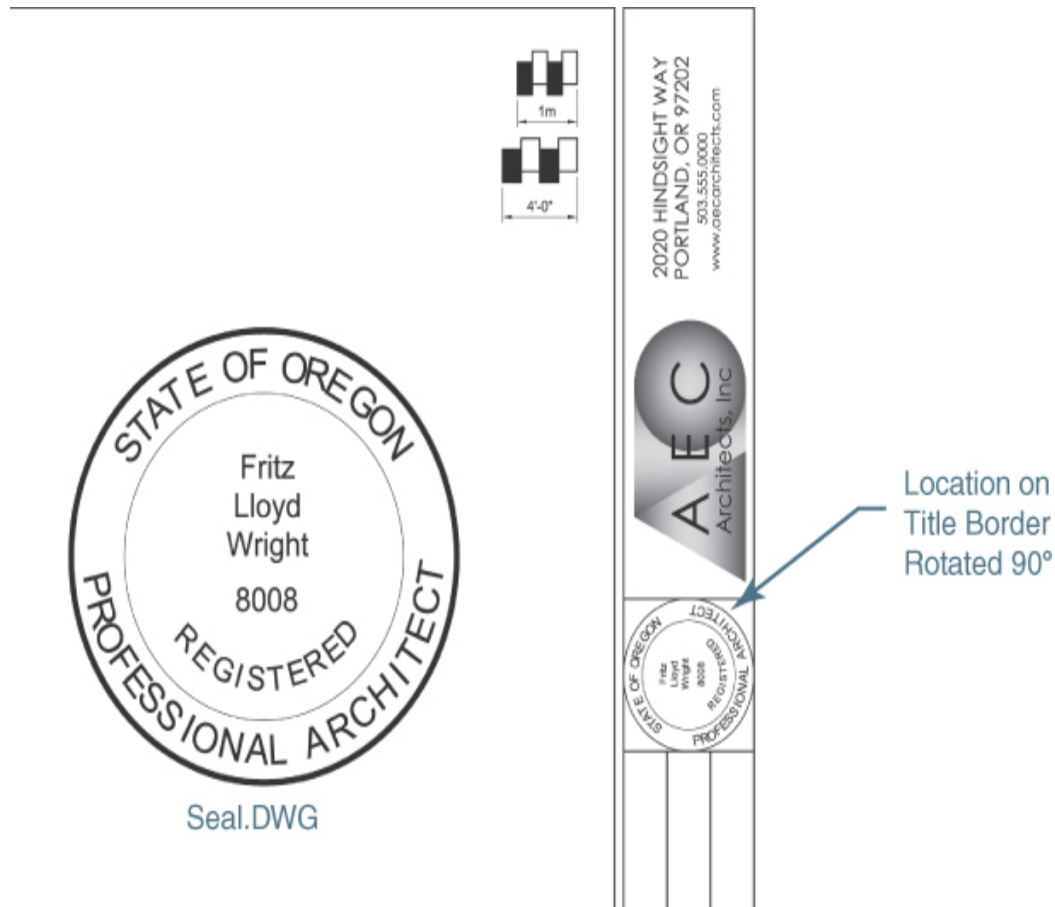

Figure 17-52
2. Create the architect's professional seal shown in Figure 17-52 as follows:
4. Attach the architect's professional seal drawing created above (**Seal.dwg**) as an external reference at the center of the title border circle as shown in Figure 17-52 so that it is rotated **90°**.